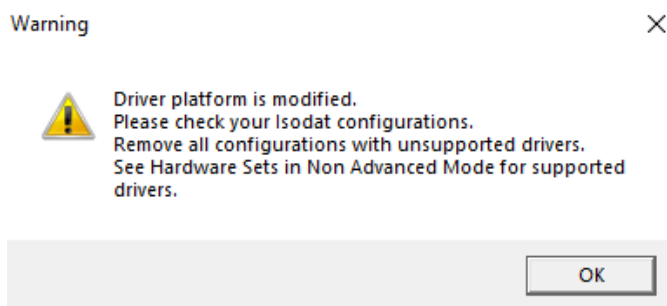

Figure 4-8. Driver platform is modified
13. You are informed that the driver platform has been modified, see Figure 4-8. Check your Isodat configurations and remove the devices which use unsupported drivers. Click **OK**.